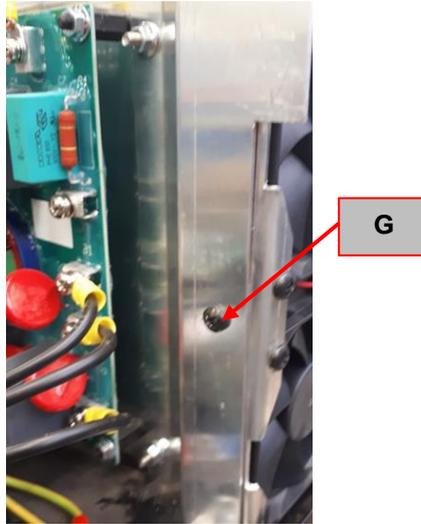

Figure 48
12. Using the PH02 screwdriver remove the screw (G). See **Figure 48**